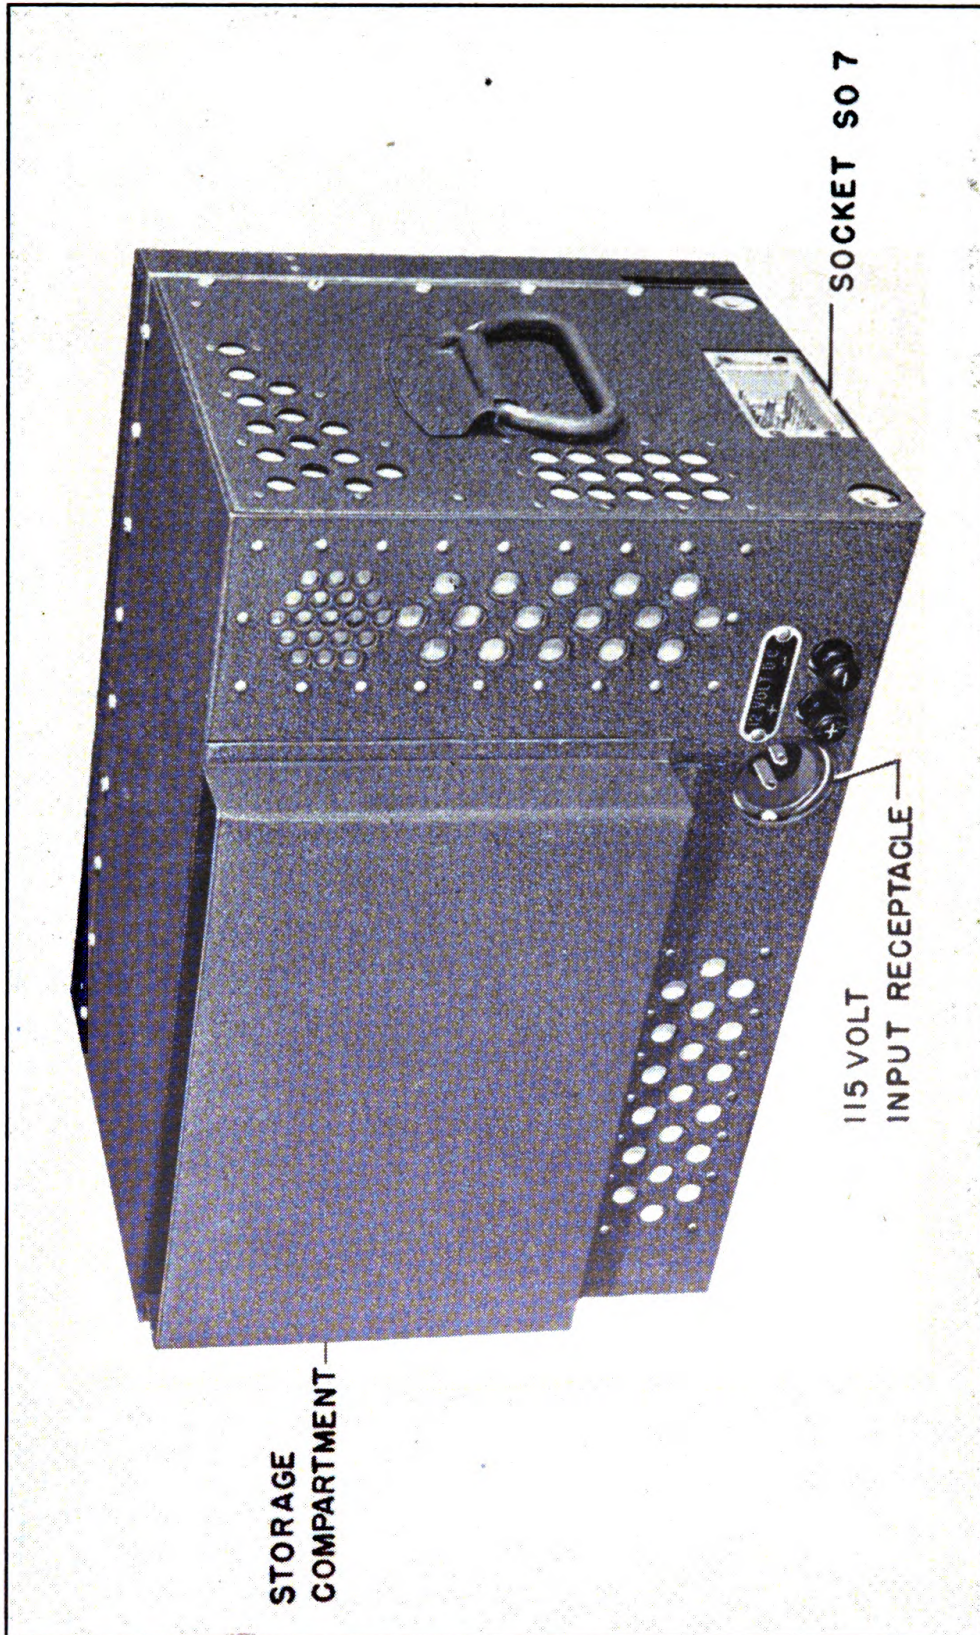

Figure 2—Signal Generator I-208, rear view
d. Output: Output voltage up to 100,000 microvolts is developed at the termination of a 30-ohm line. This output is controlled and measured by a calibrated attenuator, multiplier, and vacuum tube voltmeter. Output signal voltage, up to .84 volt, is delivered through the high output terminal and the high output cable which is stored in a compartment at the rear of the signal generator (figure 2). This output is controlled by a potentiometer and measured by the vacuum tube voltmeter.
(1) Remove the high output cable (Cord CD-749) from the compartment at the rear of the signal generator (figure 2).
(2) Unscrew the knurled cap from the HIGH OUTPUT terminal.
(3) Connect the cord and tighten the knurled fitting of the 100-ohm line to the HIGH OUTPUT terminal.
(4) Connect the other end of the 100-ohm line to the radio receiver to be checked, using the phantom antenna recommended in the alignment procedure of the radio receiver. See paragraph 6a(6).
(5) Adjust the R.F. OUTPUT CONTROL for the output voltage wanted. The output voltage is approximately .7 volt when the meter pointer is at 1.0. For example, if an output of 350,000 microvolts is wanted, set the meter pointer to .5 by means of the R.F. OUTPUT CONTROL. THE MICROVOLTS CONTROL AND THE MULTIPLY BY SWITCH MUST NOT BE USED WITH THE HIGH OUTPUT CABLE.